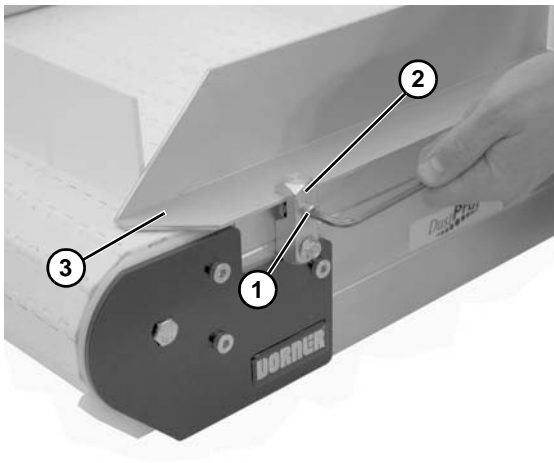

Figure 80
1. Loosen socket head screw (**Figure 80, item 1**) on guide bracket (**Figure 80, item 2**) and remove guide (**Figure 80, item 3**). Repeat on opposite side.